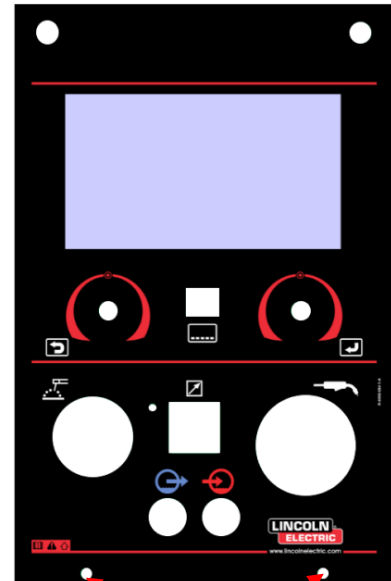

Figure 1c
8. Using the Torx T25 wrench remove the 2 screws (F) from the bottom of the plastic front panel. See **Figure 1c**